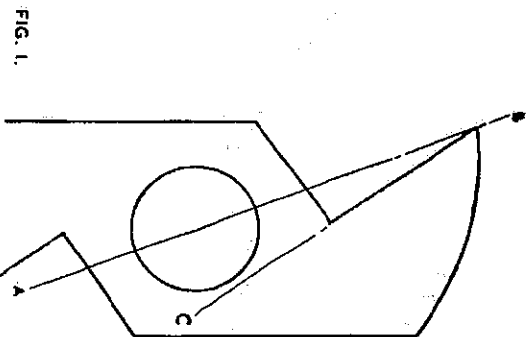

FIG. 1.
1. With precision tool grinder. This method involves grinding the cutter on an arbor between centres. The machine should be set to grind the face of the cutter so that angle ABC, in Fig. 1 is the same after grinding as it was originally.
Before regrinding the cutters by this method ensure that the check chart supplied with the cutters is to hand. To check the angle of the cutters, place the new ground face, i.e. line BC, in Fig. 1, against that of the check chart and when the angles correct the bore of the cutter should correspond to that of the check chart. This ensures that the correct angle is maintained at all time.
1. A slight variation in the angle ABC, in Fig. 1 on opposite wings of the cutter is not too important, but for the best results avoid having the point "B" in Fig. 1 or its opposite on a different radius. This would cause one cutting edge to do all the cutting and would make the cutter out of balance and cause vibration.